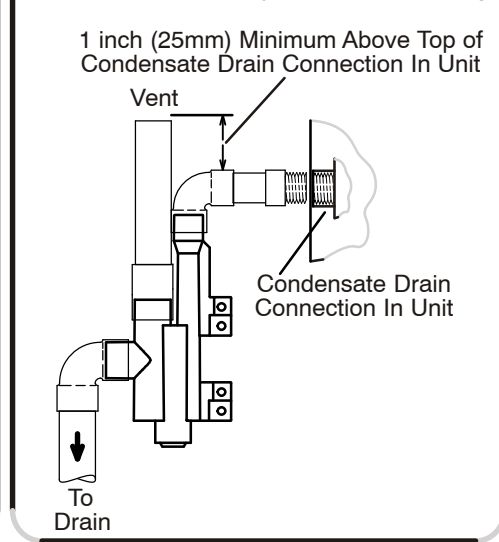

FIGURE 49
- 3 - Install the cap over the clean out opening at the base of the trap. Secure with clamp. See figure 49.
- 4 - Install drain trap using appropriate PVC fittings, glue all joints. Glue the provided drain trap as shown in figure 49. Route the condensate line to an open drain. *Condensate line must maintain a 1/4" downward slope from the furnace to the drain.*